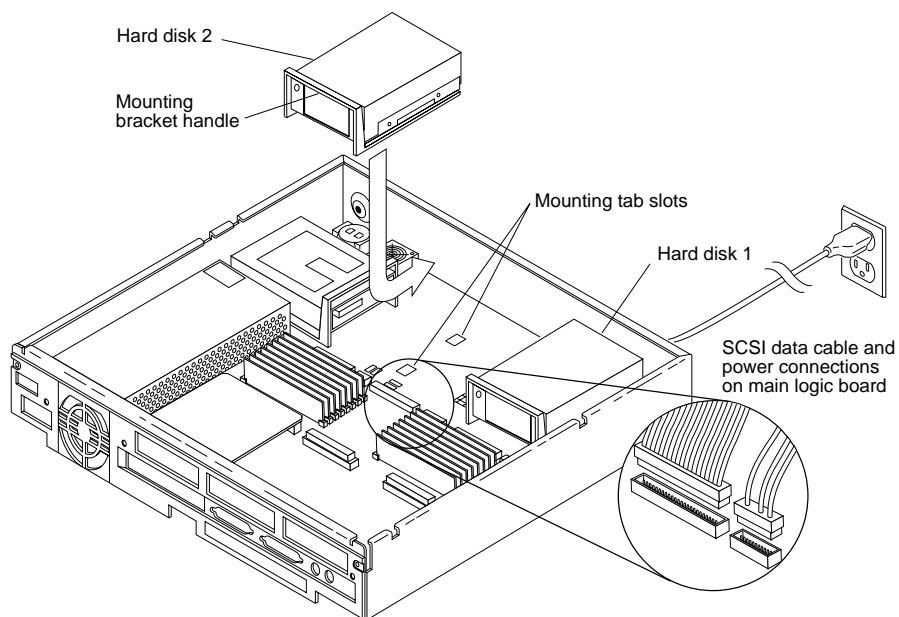

Figure 4-14 Removing and Replacing the Hard Disk Drive.
5. **Disconnect the hard disk drive power and data cables from the main logic board (see Figure 4-14).**
6. **Grasp the hard disk drive mounting bracket handle (see Figure 4-14). Pull it up slightly to release the locking tabs on the bottom of the mounting bracket.**
- 2. Lower the drive into the chassis and align the four mounting tabs on the bottom of the drive mounting bracket with the slots in the bottom of the chassis (see Figure 4-14).**